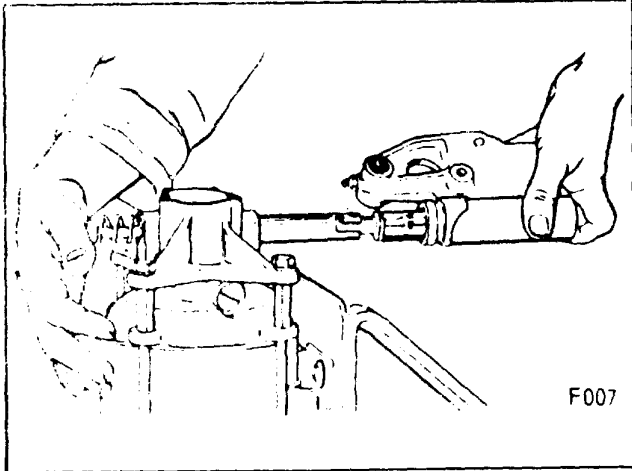

Figure 10.
2. Hold cylinder toward a strong light and sight through cylinder bore. Inspect wall for pitting and scratches. If any of these or other defects are noticed, hone the cylinder wall. (Fig. 10)